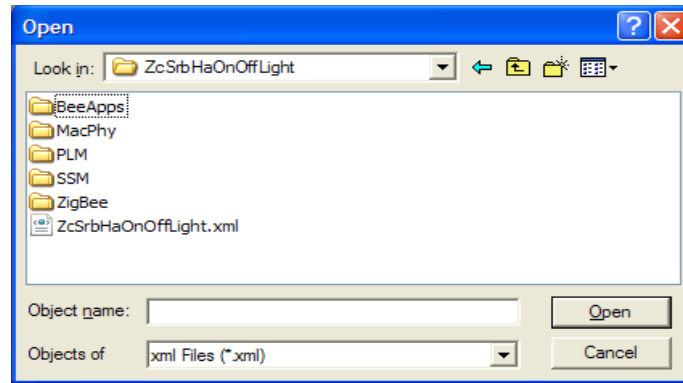

Figure 3-15. CodeWarrior Open XML Window
5. Navigate into the `zCsrBHAOnOffLight` directory as shown in Figure 3-15.